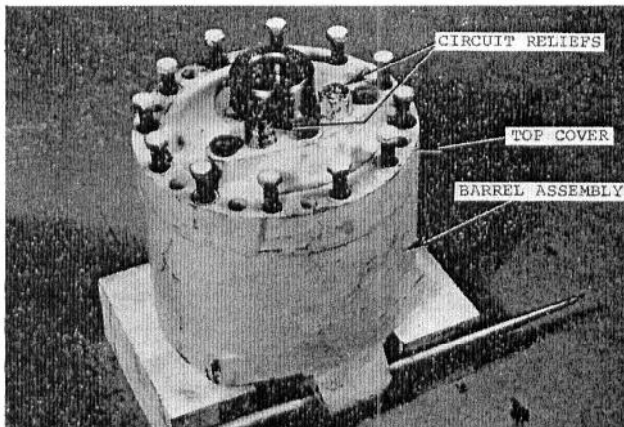

Fig. 45 — MF Part No. 708 714 M92 Cylinder on Blocks for Servicing
1. Block cylinder securely on the floor so that the splined shaft is not touching, then remove the capscrews securing the top cover to the barrel assembly ... see Fig. 45.